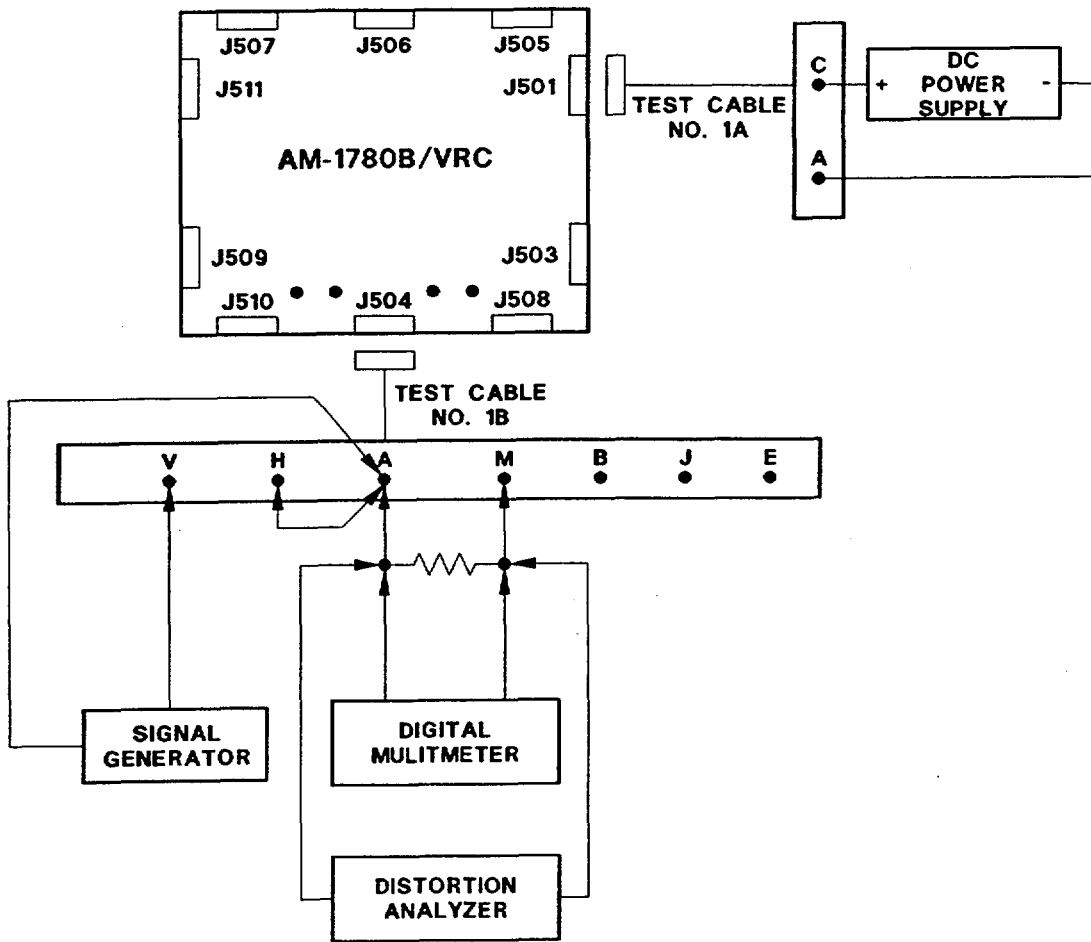

Figure 2-5. DS Test Setup E.
- a. Connect a 100 ohm resistor between J504-M and ground (fig. 2-5). Connect the digital multimeter and distortion analyzer in parallel across the 100 ohm resistor.